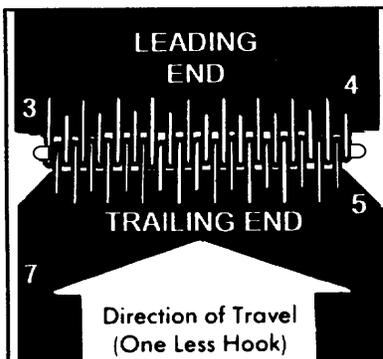

Figure 2-7b
The Clipper belt lacer is provided to help the center mechanic manufacture replacement distributor belts. The optimum belt length can vary slightly from distributor to distributor. If possible, match the existing belt length. The belt lacing will add approximately 1/4 inch to the overall, installed belt length. One end of the belt should have lacing containing an odd number of individual hooks while the other end should have lacing with an even number of hooks (see Figure 2-7b). To make a belt, proceed as follows:
4. Use one more hook on leading edge than on trailing edge (Fig. 2-7b).